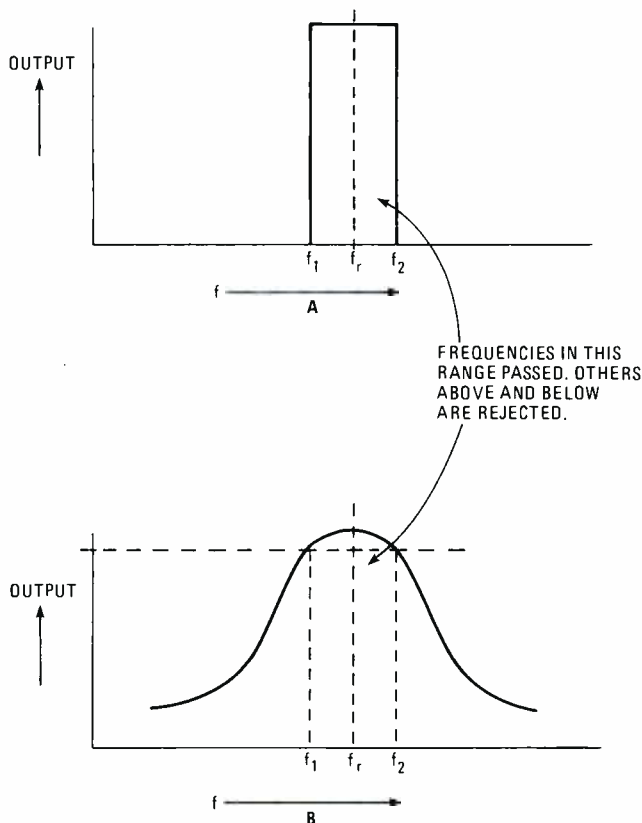

Fig. 23—The ideal response curve of a bandpass filter is shown in A. The practical response is shown in B.
48. (m-derived) Now let's talk about bandpass filters (BPF): circuits that pass a certain range of frequencies but reject all those above and below that range. Figure 23 shows the ideal and practical response curves of a BPF. Note that there are two cut-off frequencies, one above and one below the peak, center, or resonant frequency. The difference between the upper and lower cut-offs is called the filter's bandwidth (BW).